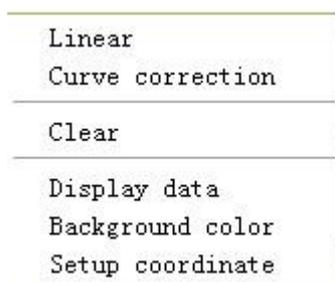

Figure 5-15a
16. After the standard curve has been completed, right click the mouse and the screen will be shown as that in Figure 5-15a. Now, you may change the curve fitting mode (linear or curve correction) at any time. In the figure, curve correction is selected, i.e. the curve fitting mode.